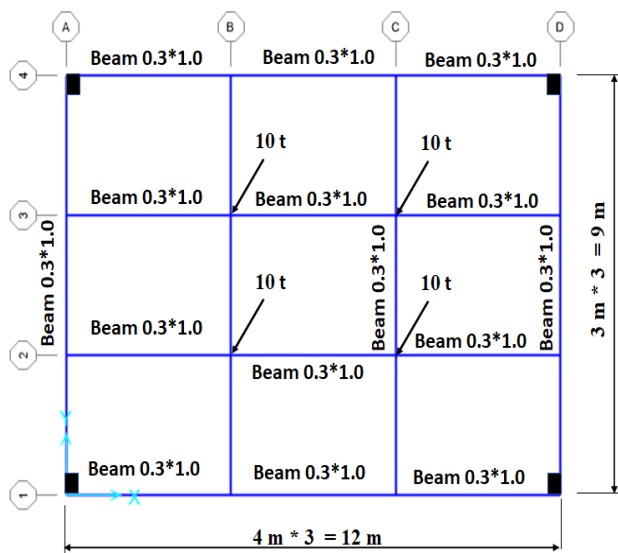

Figure 3. Paneled beam covering project
3. How to use SAP 2000 to analyze the paneled beams project for an area of 9*12 m loaded as shown in Figure 3 (all beams cross-section is 0.3*1.0 m). (Neglect self-weight of the beams). (7 marks)